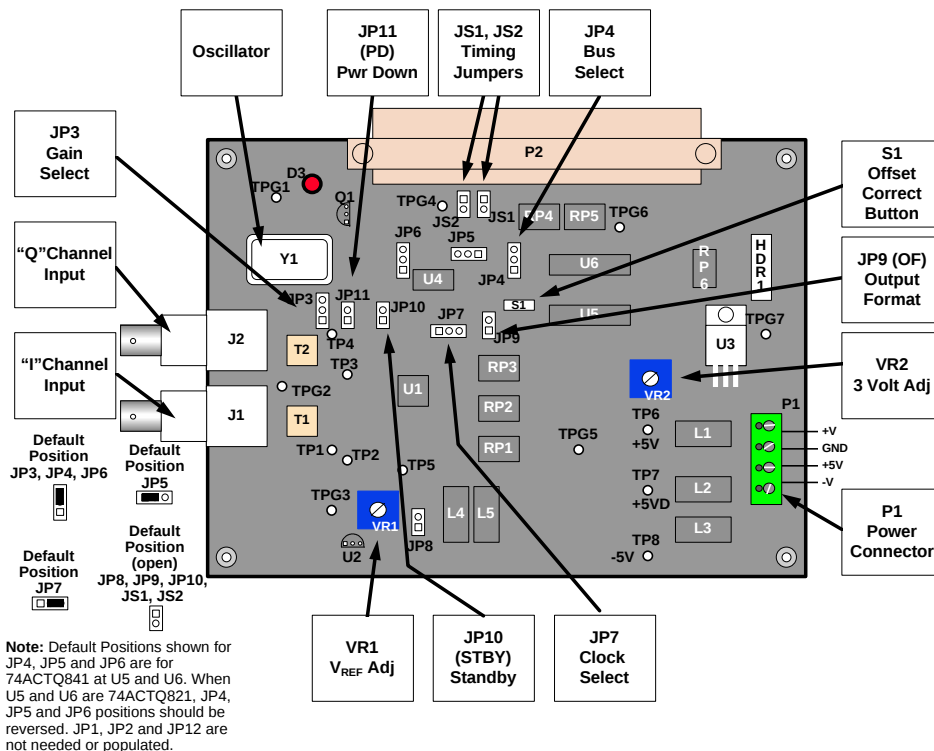

Figure 1. Component and Test Point Locations
The ADC10D040 Evaluation Board may come pre-assembled or as a bare board that must be assembled. Refer to the Bill of Materials (Section 8.0) for a description of components, to *Figure 1* for major component placement and to *Figure 8* (in Section 8.0) for the Hardware schematic.
Refer to *Figure 1* for locations of test points and major components. For Stand-Alone operation:
2. To use the crystal oscillator located at Y1 to clock the ADC, connect the jumper on JP7 to pins 1 and 2 (opposite from default position shown in *Figure 1*).
To select the "Q" channel, and direct its output to the data bus, place the jumper on JP4 between pins 1 and 2 (opposite from default position shown in *Figure 1*).
An adjustable reference circuit is provided on the board. When using the resistor values shown in *Figure 1*, the reference circuit will generate a nominal reference voltage in the range of 0.4 to 1.2 Volts. The ADC10D040 is specified to operate with V_{REF} in the range of 0.8V to 1.2 V, with a nominal value of 1.0V when the GAIN pin is at a logic high, or half these values when the GAIN pin is at a logic low. The reference voltage can be monitored at test point TP5 and is set with VR1.